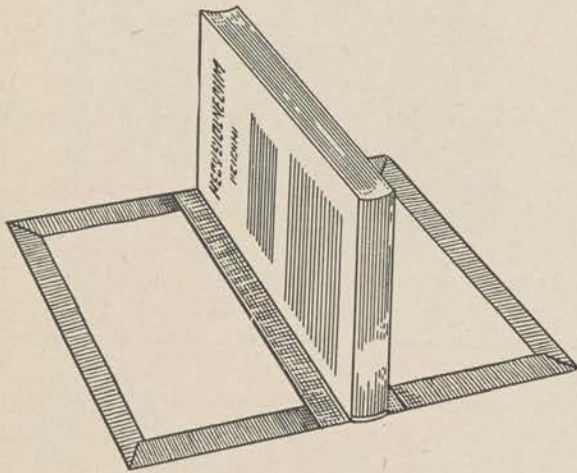

Figure 283.
e. The book is now fastened in the binder. Spread paste on the buckram flaps which extend beyond the back of the book. Do not paste the back itself. Place the book in the exact center of the paper strip which marks the middle of the binding. Press down the buckram flaps and hold them with weights until the paste is dry (fig. 283).